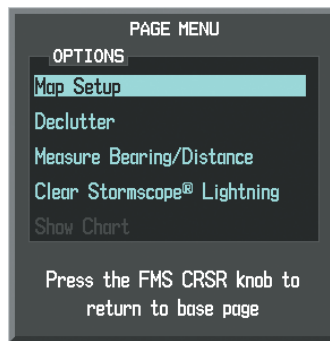

Figure 6-46 Page Menu
- 3) Turn the small **FMS** Knob to display the group selection window. Turn the small **FMS** Knob to select 'Weather' (Figure 6-46), and press the **ENT** Key.